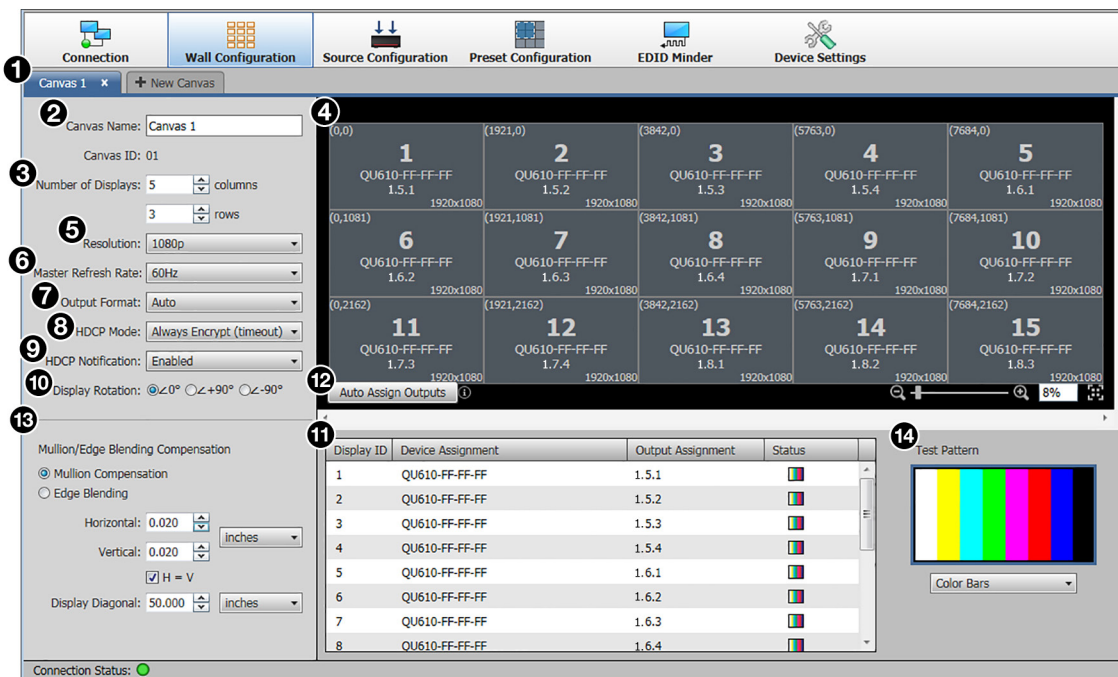

Figure 4. Wall Configuration Window
Click the **Wall Configuration** button (shown at right) to configure the outputs and to select the output channels on the Quantum Ultra Series device for the videowall. The Wall Configuration window opens, providing a Canvas to set up the wall (see figure 4).
- Name the Canvas.** By default, the first videowall configuration (Canvas) you define is named Canvas 1 (see figure 4, ①). In the **Canvas Name** field, you can customize the name if desired (②). Each Canvas that is created (a maximum of 10) is assigned an incremented number that appears in the Canvas ID field and is used in SIS commands.
- Select the number of displays.** In the spin boxes labeled Number of Displays (③) select or enter the number of displays for the columns and the rows of the videowall. In the example in figure 4, the wall has five columns by three rows (④).
- Resolution** (see figure 4, ⑤) — From this drop-down list, select the output resolution for the displays.
- Master Refresh Rate** (⑥) — From this drop-down list, select the refresh rate for the displays.
- Output format** (⑦) — From this drop-down list, select the output format (**AUTO**, **DVI RGB 444** or **HDMI RGB 444**). The default is **Auto**.
- HDCP Mode** (⑧) — From this drop-down list, select how to manage HDCP encryption on the outputs. You can select to always encrypt the output (default), to never encrypt the output, or to attempt to encrypt the output for 1 minute, then revert to an unencrypted state (not allowing display of HDCP encrypted sources if authentication with the sink device fails).
- **HDCP Notification (9)** — From this drop-down list, select to enable or disable a green screen notification when the input signal contains HDCP-protected content and the outputs cannot be encrypted.
- **Display Rotation** (see figure 4, 10 on the previous page) — In this panel, select the radio button for the angle at which the displays physically rotate: +90° (90 degrees clockwise), -90° (90 degrees counterclockwise) or 0° (no rotation). The example at right shows a videowall that has four rotated displays.